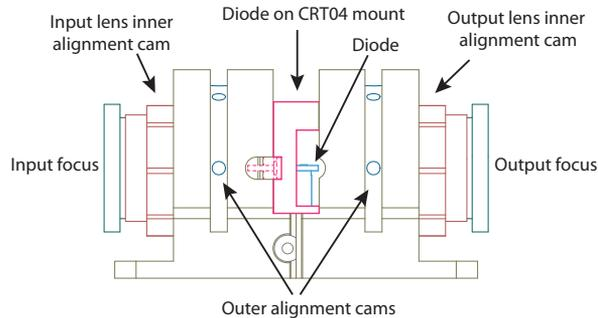

Figure 2.1: Eccentric cam sub-assembly.
- Using the input pair of eccentric cams (see fig. 2.1), adjust the input collimation lens position so that the weak alignment beam exits (from the input side of the MOA002) parallel to your optical table and aligned with the MOA002.